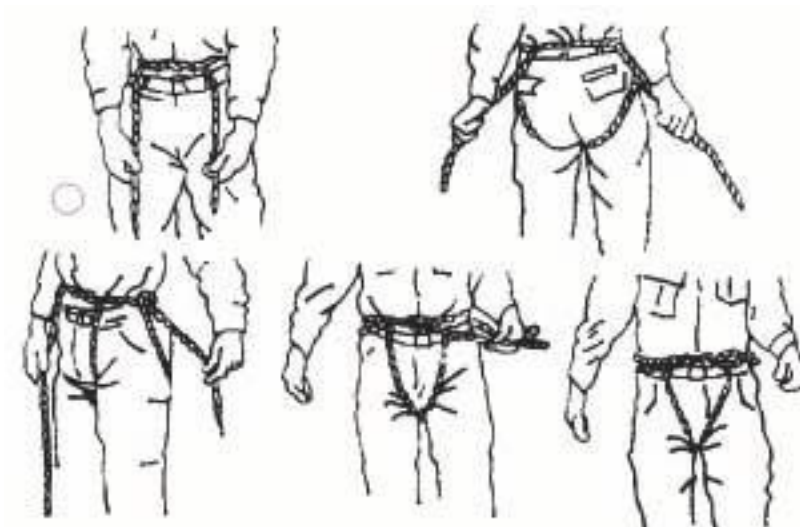

Figure 2-27. Military Rappel Seat
(4) Military Rappel Seat. Fashioned from the sling rope, start by taking the center of the sling rope and placing it on the left hip so that the running ends of the rope wrap around the waist just below the hipbone. Next, bring both ends together in front of the body and tie an overhand knot in front (preferably two). Take the two running ends down between the legs and bring them up behind you. Bring the two running ends down through the legs up over the buttocks, and over the original waist wrap and the waist. Then bring the rope over itself forming a bight then, cinch this up tightly. Also, make sure the ropes run along the outside of the buttocks. Take the two running ends and make a square knot with two overhands on the left hip. Any loose rope from the square knot will be tucked into a pocket (Figure 2-27).